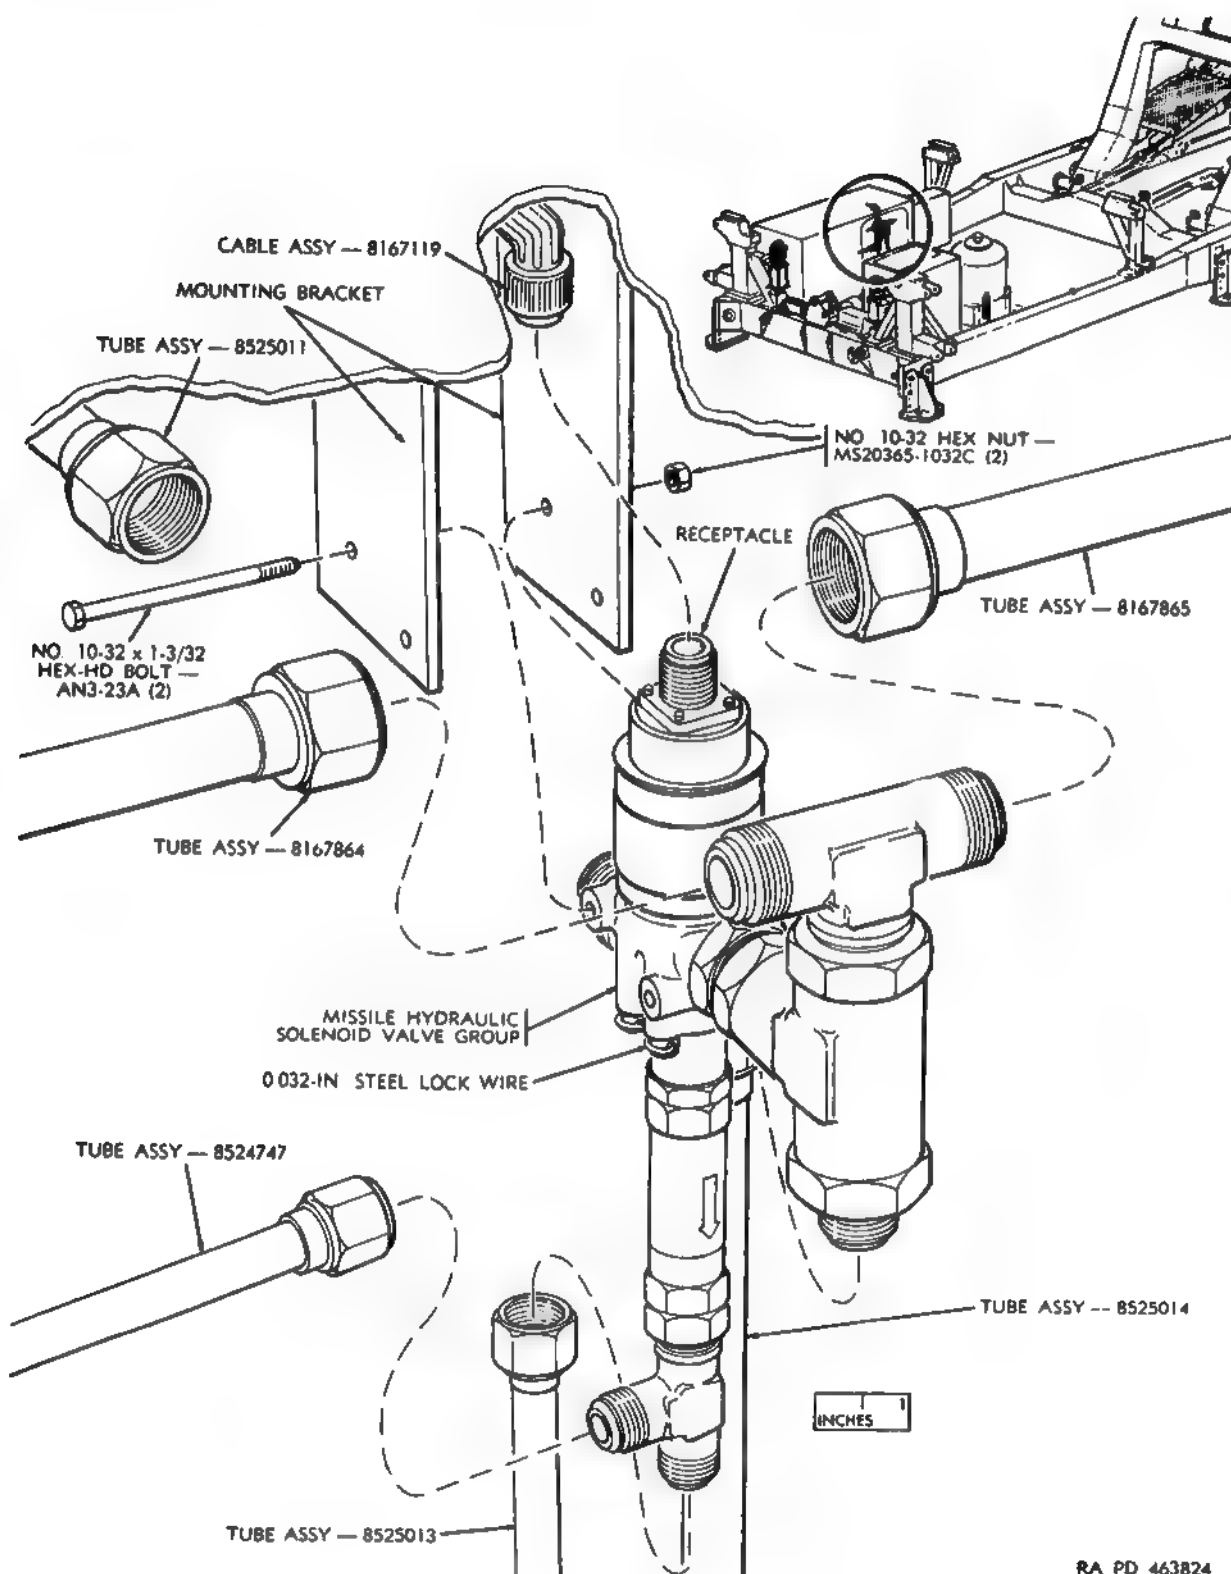

Figure 134. Missile hydraulic solenoid valve group — removal and installation.
- (e) Disconnect cable assembly (fig. 134) from receptacle.
- (b) Lockwire four screws with 0.032-inch steel lockwire (fig. 134).
- (5) *Inspection and test.*
- (a) Check all hydraulic connections for fluid leakage; if there are any leaks, remove attaching tube assembly (fig. 134) as described in *w(1)* below.